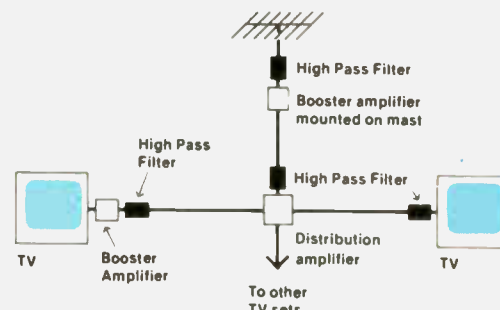

Fig. 4.
input terminals (see Fig. 4). If the amplifier is located close to the receiver, then install the filter before the amplifier only.
e. If you have an amplifier in your antenna system, you should have a filter installed before the amplifier and another filter ahead of the TV receiver input terminals (see Fig. 4). If the amplifier is located close to the receiver, then install the filter before the amplifier only.